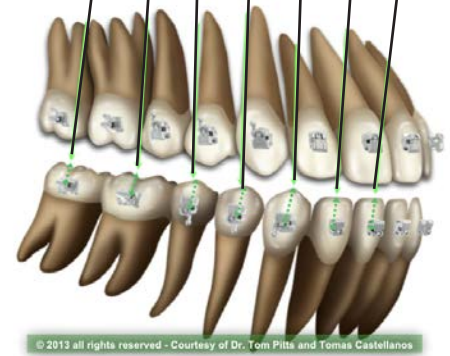

Figure 7: The third step is to find the lower canine crown length measurement and the subsequent positions for the mandibular brackets
3. Select in a similar way the height to bond brackets for mandibular teeth: a) measure the length of the crown of the mandibular canine, from cusp tip to gingival margin (after reconstruction, recontouring, and gingivoplasty); b) find this number in the column of the table GPS-A (Guide Position Smile-Arc lower), and choose the number in the adjacent row. This number indicates the position for bonding each bracket in the mandibular area (Figure 7).